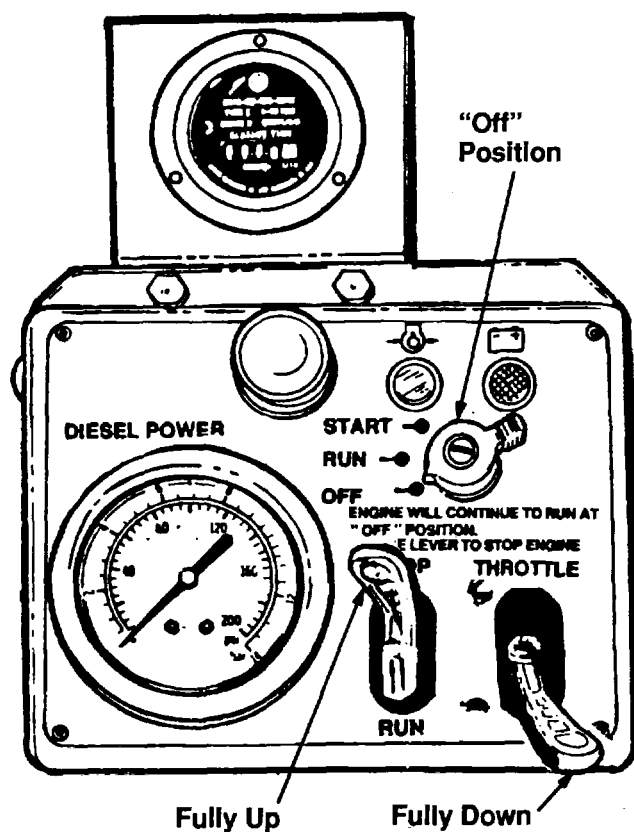

Figure 2-14. Control Panel-Stopping the Engine
3. Move the run-stop lever to stop, fig. 2-14.